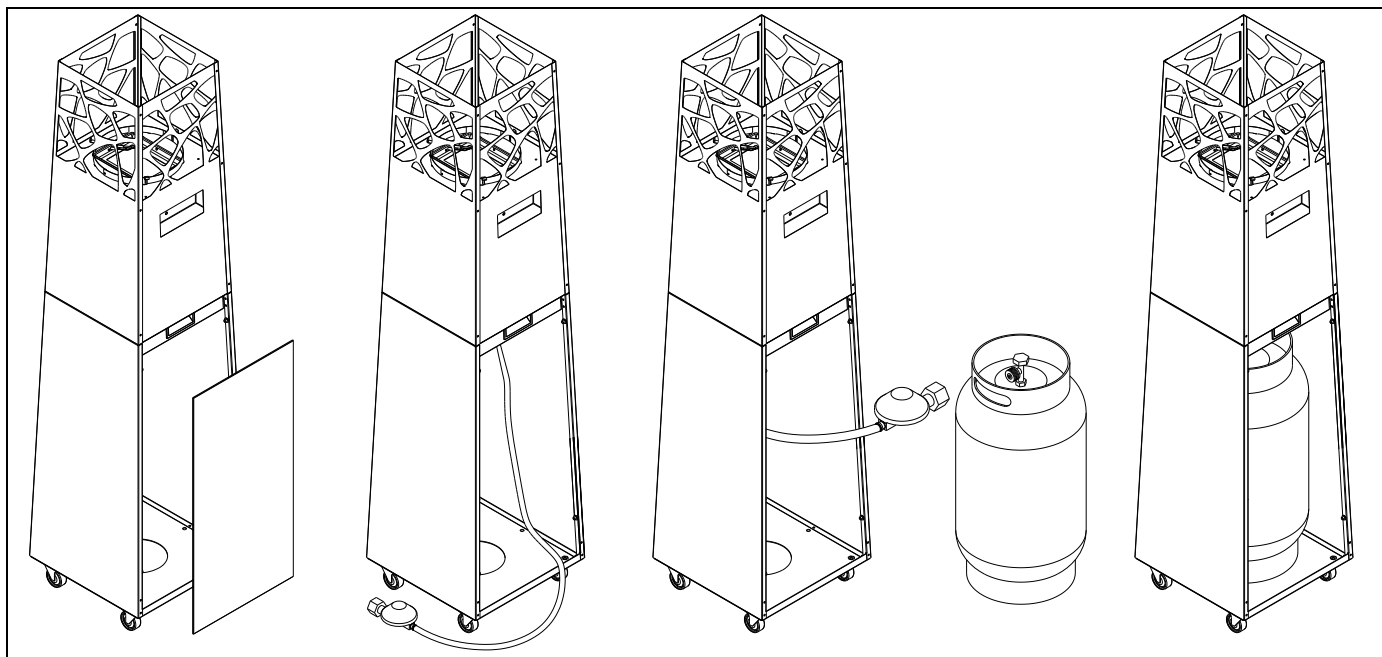

Fig 9– Gas cylinder installation
- Make sure that the knob is placed in „OFF” position (all the way clockwise) (Fig 9).